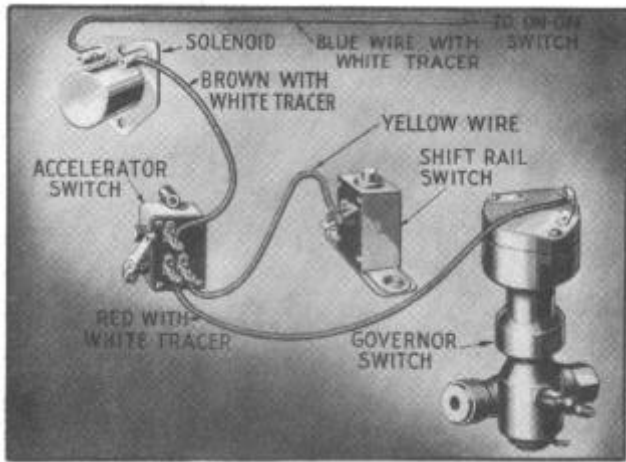

Figure 28--Lower Wiring Harness
D. Carry red wire with white tracer Figure 28, and yellow wire down dash and over clutch housing and connect yellow wire to shift rail switch on top of clutch housing and red wire with white tracer to the governor.